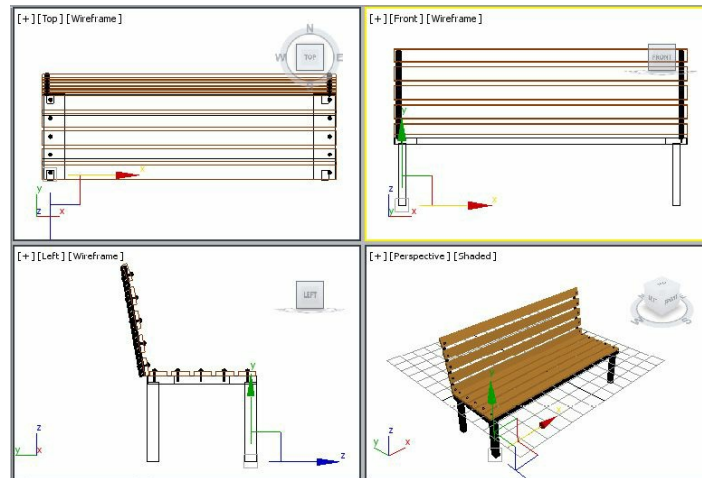

Figure 2-95 Alignment of legs in viewports
7. Choose the **Select and Move** tool and align *leg002*, *leg003*, and *leg004* in all viewports, as shown in Figure 2-95.